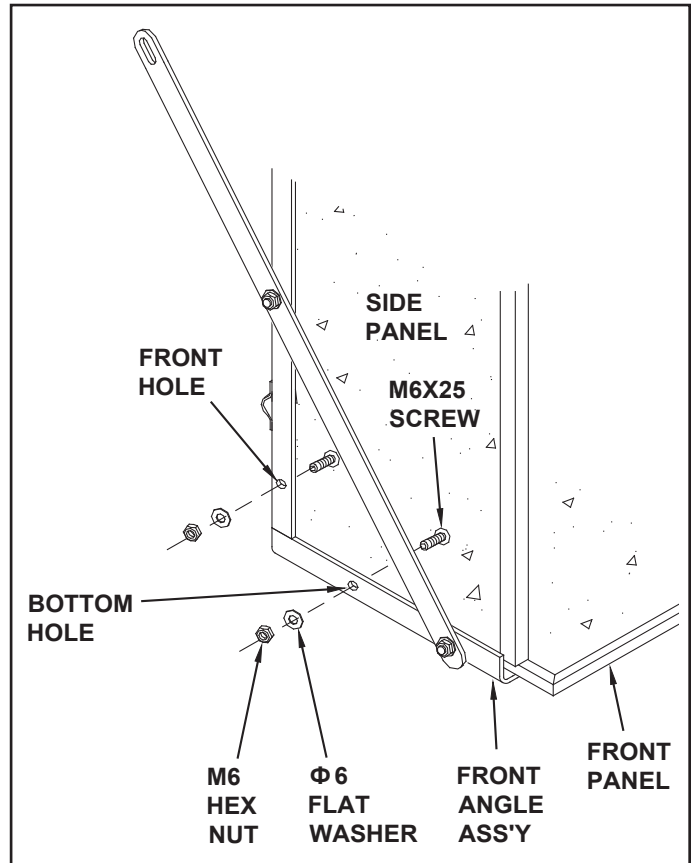

FIGURE 8
12. Start one M6X25 screw through the bottom hole in the side panel and the front angle assembly. Start another M6X25 screw through the front hole in the side panel and the side angle. Secure with two flat washers and two hex nuts, **making only finger tight at this time.** See figure 8.
14. **Tighten** all nuts and screws securely at this time, except for nuts and screws in axle clamps. See figure 8.